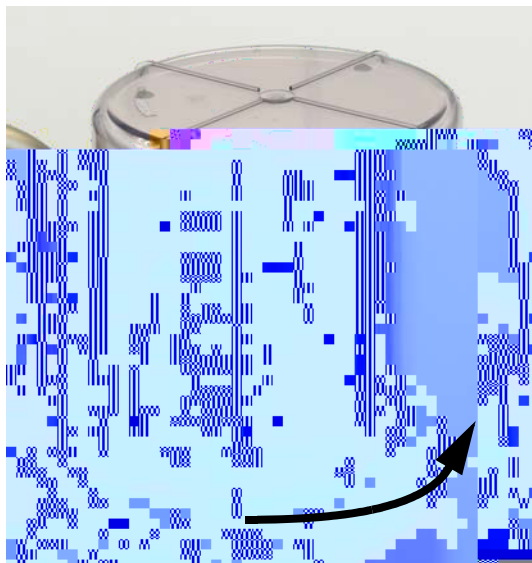

FIGURE 7-5 Removing the Bellows Dome
1. The bellows dome is a transparent cover with graduation marks from 300 to 1500 ml. Remove the bellows dome by turning it counterclockwise and lifting it away from the breathing system. (see FIGURE 7-5)